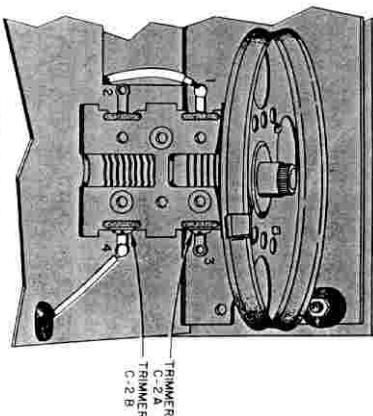

FIGURE 16. C-2 WIRING DETAIL
- ☒ Yellow wire from grommet B. Refer to Figure 16 for the correct terminal location. Solder the free end of the wire to terminal 4 of C-2.
- ☒ White/black wire. Refer to Figure 16. Solder one end to terminal 1 of C-2. Push the other end of the wire down through the chassis cutout; it will be connected later.
- ☐ Repeat the procedure of finding and identifying a station, but near 1600 KC. If the dial setting does not correspond to the frequency listed or given for that station, set the dial to the correct frequency and adjust C-2B (See Figure 16) until the station is heard.